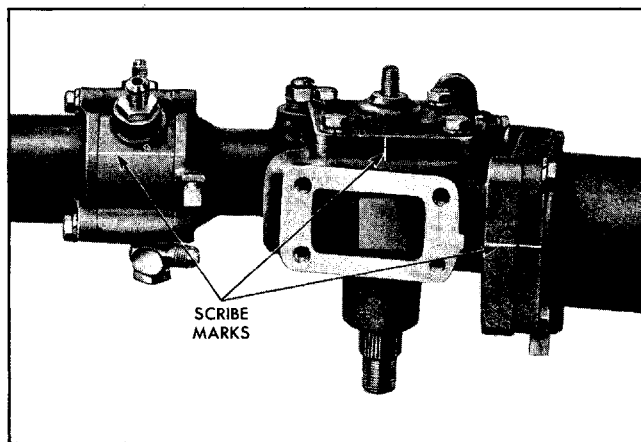

Fig. 9-31 Scribe Marks on Cover, Body and Gear Housing
2. Scribe mark cover, body, and gear housing to ensure same positioning of parts on reassembly (Fig. 9-31).